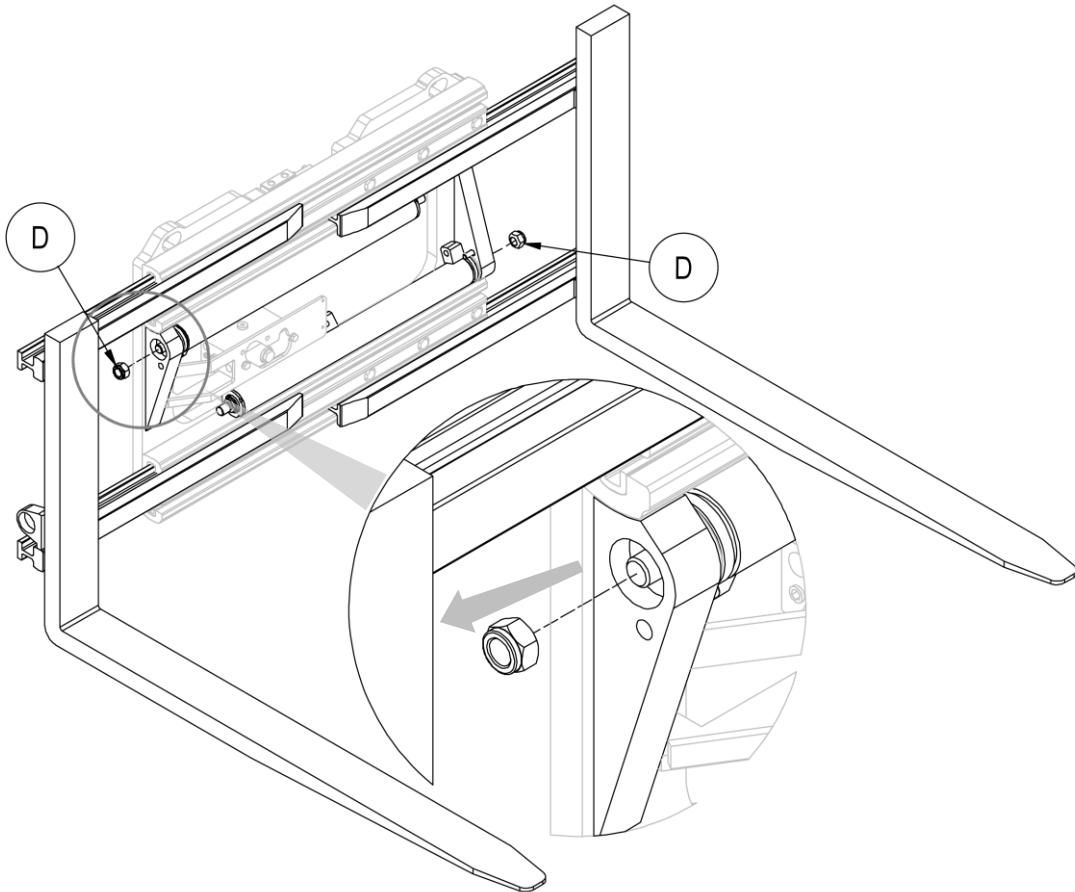

Figure 29
7. Remove the nuts **D** that secure the cylinders to the equipment assembly and remove the cylinders, taking care not to damage them (see *Figure 29*).